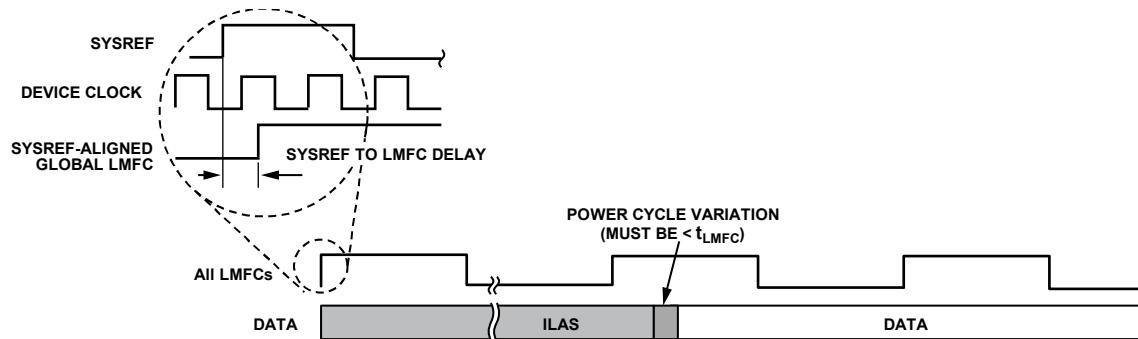

Figure 104. SYSREF and LMFC
The JESD204B protocol organizes data samples into octets, frames, and multiframe as described in the Transport Layer section. The LMFC is synchronous with the beginnings of these multiframe. In Subclass 1 operation, the SYSREF is used to synchronize the LMFCs for each device in a link or across multiple links (within the AD6688, SYSREF also synchronizes the internal sample dividers), as shown in Figure 104. The JESD204B receiver uses the multiframe boundaries and buffering to achieve consistent latency across lanes (or even multiple devices), and also to achieve a fixed latency between power cycles and link reset conditions.
- The total latency variation across all lanes, links, and devices must be ≤ 1 LMFC periods (see Figure 104). This includes both variable delays and the variation in fixed delays from lane to lane, link to link, and device to device in the system.